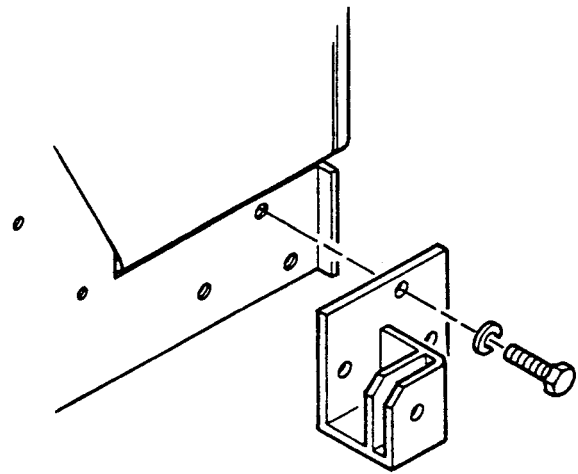

FIG. 1
- Attach the brace arm brackets to the R.H. and L.H. sides of the tractor frame. Use three  $\frac{1}{2}$ —13 x 1 hex head capscrews, lockwashers and nuts on both sides as shown in FIG. 1. **CAUTION** must be taken so the threads in the nuts on the inside of the tractor frame are not damaged.